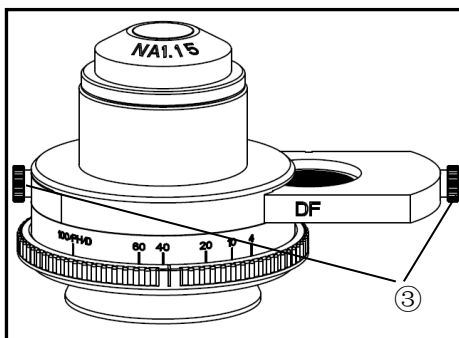

Fig.37
8.2 Installation and Use (Fig.37)